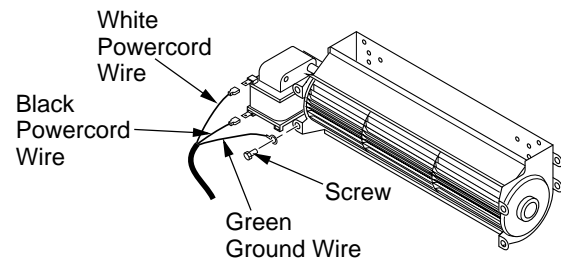

Figure 13 - Removing Wires from Blower
5. Disconnect power cord wires from blower motor (if connected) (see Figure 13).
6. Disconnect green ground wire from blower housing (if connected) by removing screw holding wire terminal (see Figure 13).
12. Attach the terminal end of the green power cord wire to the front tab of the blower housing using screw provided (see Figure 13).
5. Disconnect power cord wires from blower motor (if connected) (see Figure 13, page 10).
6. Disconnect green ground wire from blower housing (if connected) by removing screw holding wire terminal (see Figure 13, page 10).